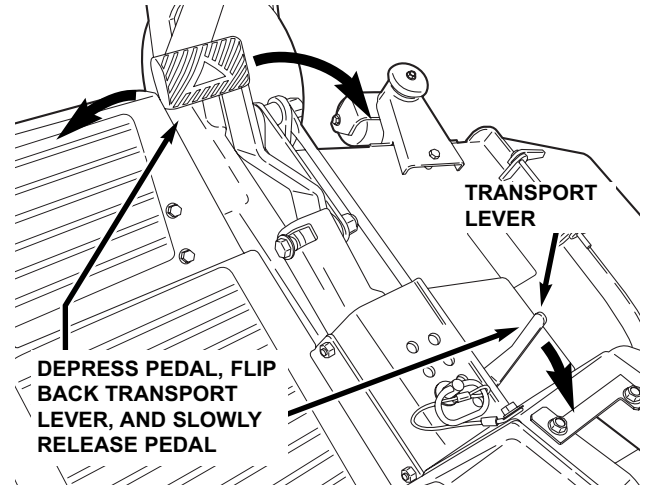

FIGURE 3.11
3. Depress deck lift pedal while flipping back transport lever, and slowly release pedal to lower deck. See Figure 3.11.